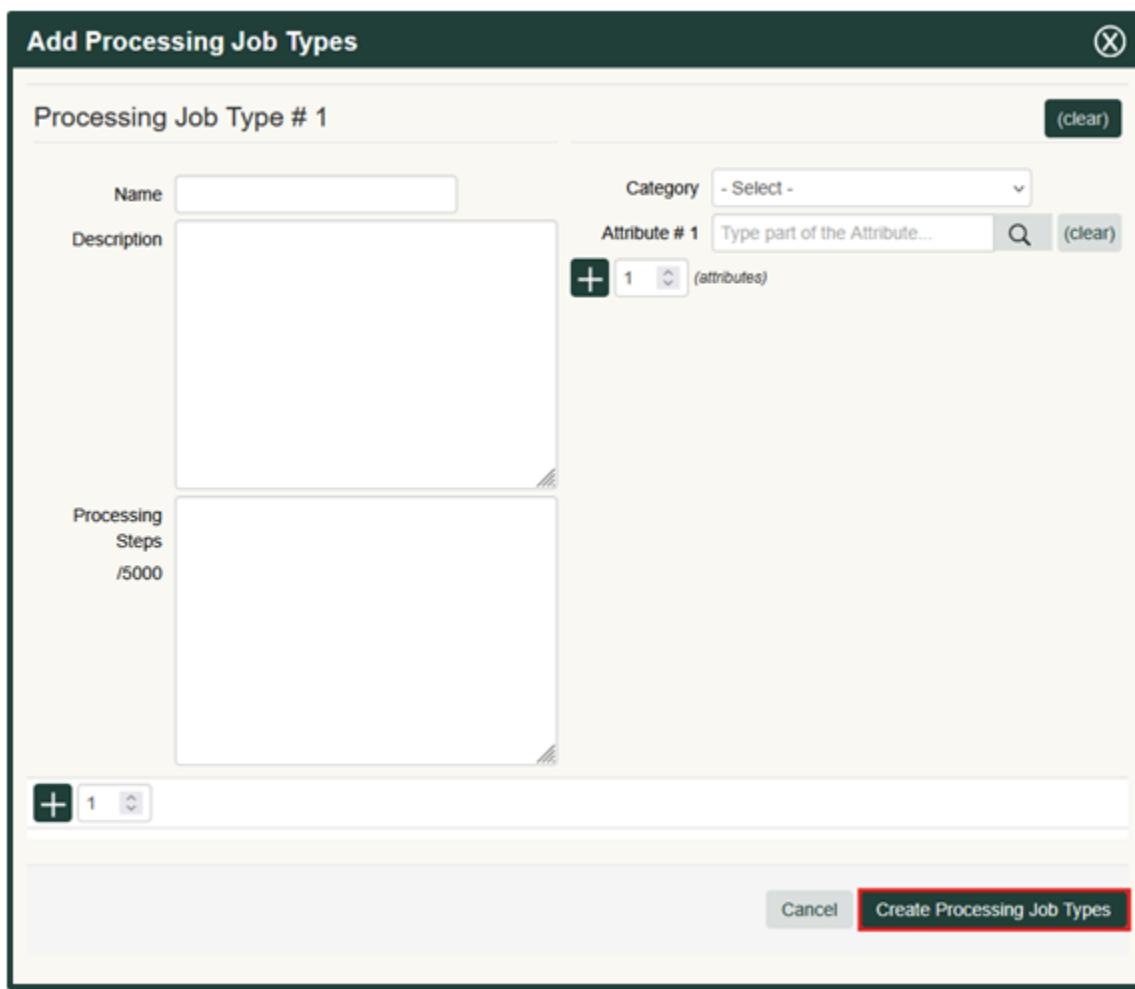

Figure 3: Add Processing Job Types action window
- Attributes can be added by typing in the attributes needed into the attribute field or by selecting the magnifying glass icon and choosing the appropriate option from the group of attributes. To add additional attributes, select the blue plus icon button – **see Figure 3**.